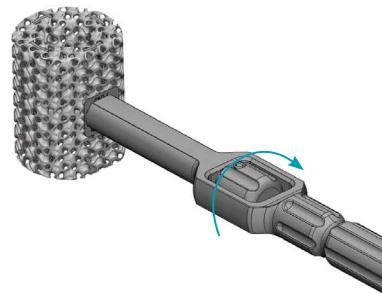

Fig. 10
**10.** With the definitive Ossera™ AFX implant selected, screw attach the inserter into the lateral insertion hole of the Ossera™ AFX by placing the prongs of the inserter into the corresponding lateral slots in the implant and rotating the knob clockwise while holding the handle. (fig. 10). Autograft, allograft or synthetic bone graft material may be packed into the porous lattice and along the circumference of the central hole near each end of the Ossera™ AFX. When the nail is advanced through the central hole of the Ossera™ AFX, the bone graft will help to prevent contact between the Ossera™ AFX and the nail.